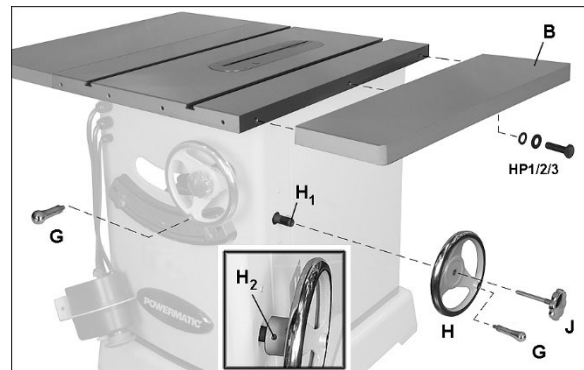

Figure 6-3: installing accessories
See Figure 6-3.
1. Remove tape from around shaft to expose threads and shaft key (H1, Figure 6-3).
5. Install locking knob (J, Figure 6-3) and handles (G). Use wrench on flat of handles to tighten against handwheels.